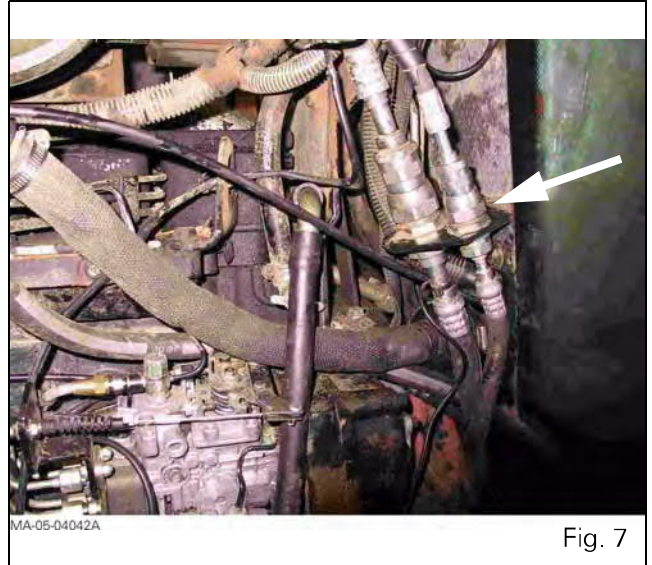

Fig. 7
7. Remove the unions after emptying, taking the precautions necessary to prevent any dirty particles from entering the air conditioning circuit (Fig. 7)